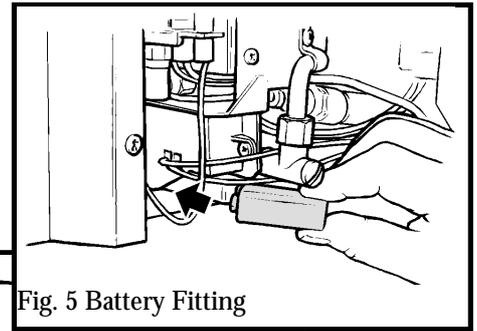

Fig. 5 Battery Fitting
3.1.1 Fit the battery to the ignition block located below the burner tray at the left side (see figure 5). The positive terminal (+) is to the right as you insert. The guide plate will help you to locate the battery.